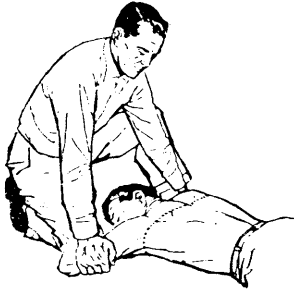

Figure 3. Position of Expansion Phase
3. *Position of Expansion Phase* (Figure 3). In releasing the pressure, the operator should avoid a final thrust upon the victim's back. Then rock back slowly, placing the hands upon the victim's arms just above the elbows.